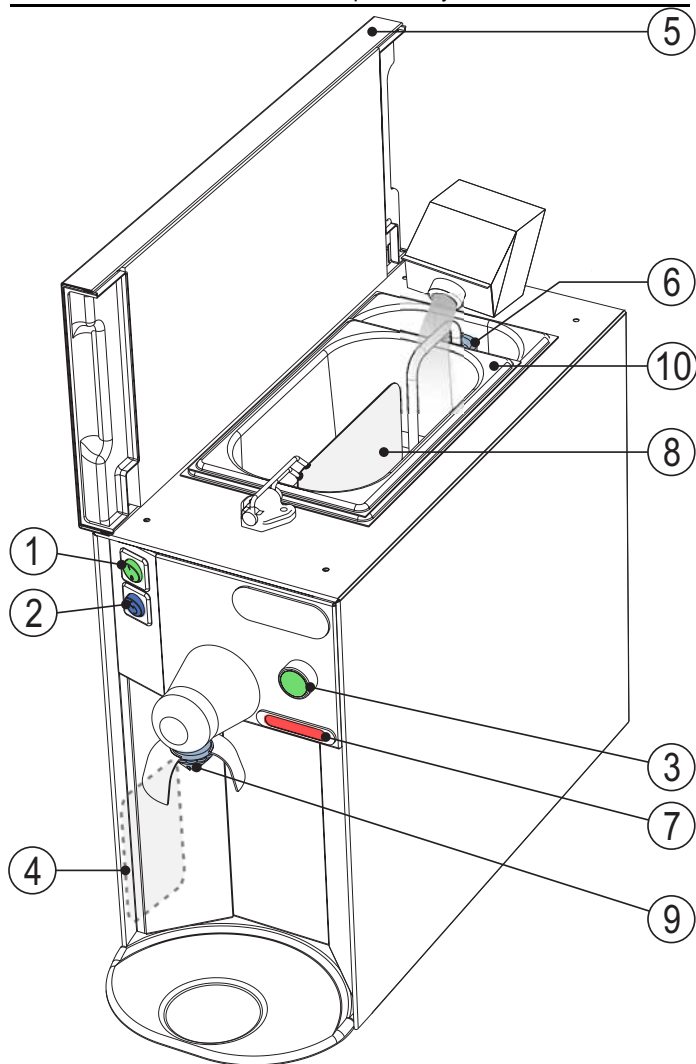
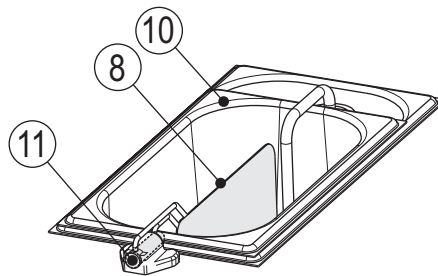

Fig.1
Fig. 2
- Press on the switch "1" (Fig. 1); when the green light is on, the machine is connected to the power supply.
- Before proceeding with the delivery of the whipped cream be sure that thermometer "7" (Fig. 1) has reached almost 6°C.
Insert the paddle "8" (Fig. 2) into the housing "11" (Fig. 2), switch the machine on "2" (Fig. 1) so that the paddle begins to move from side to side.
The whipped cream is delivered through the decoration nozzle "9" (Fig.1) when the delivery button "3" (Fig. 1) is pressed.
If no cream is produced about 20 seconds after pressing the delivery button "3" (Fig. 1), pour a teaspoonful of liquid cream into the funnel of the regulator "6" (Fig. 1).
Turn the switch off "1" (Fig. 1): when the green light turns off, the machine is disconnected from the power supply.